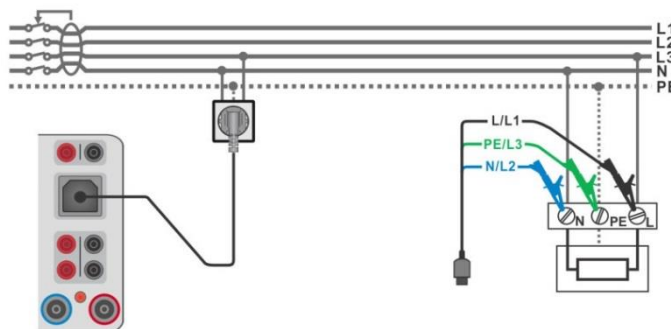

Figure 6.121: Connecting the Plug test cable or the 3-wire test lead
- ▶ Connect 3-wire test lead or Plug test cable to the object under test, see **Figure 6.121**.